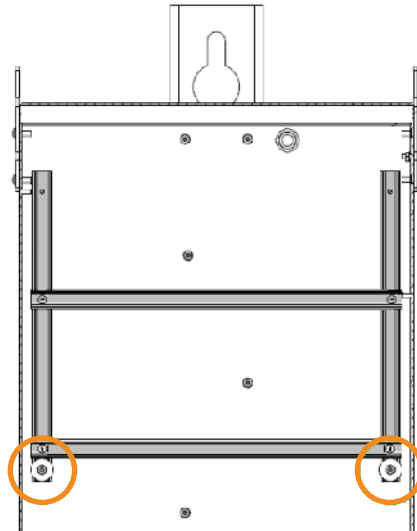

Figure 1 Install Accessory Mounting Assembly
- Step 1. Install the accessory mounting kit subassembly to the inside back wall of the cabinet. Secure the accessory mounting kit to the cabinet with two fender washers and two nuts on the bottom studs only. See *Figure 1*.